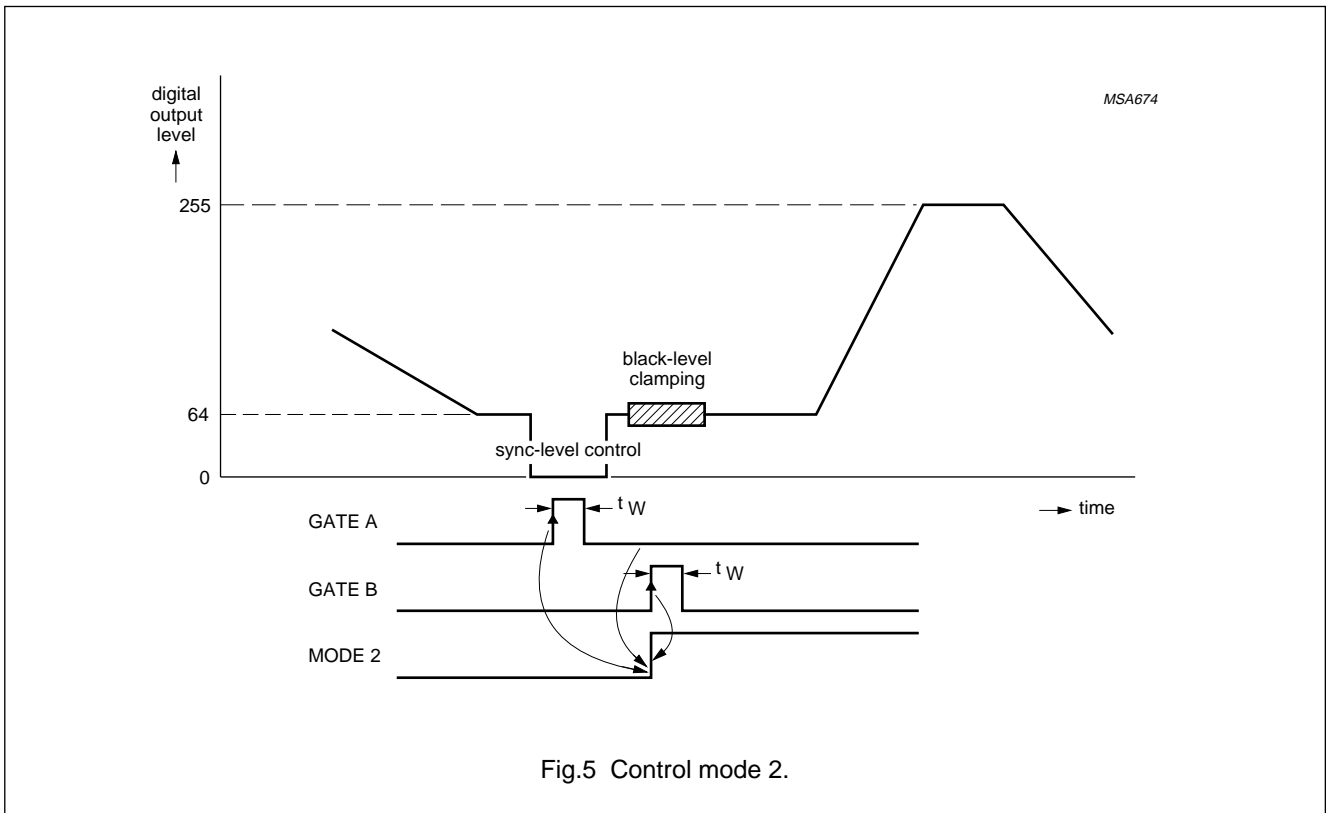

Fig.5 Control mode 2.
- Mode 2 can only be initialized with successive pulses on GATE A and GATE B (see Fig.5).